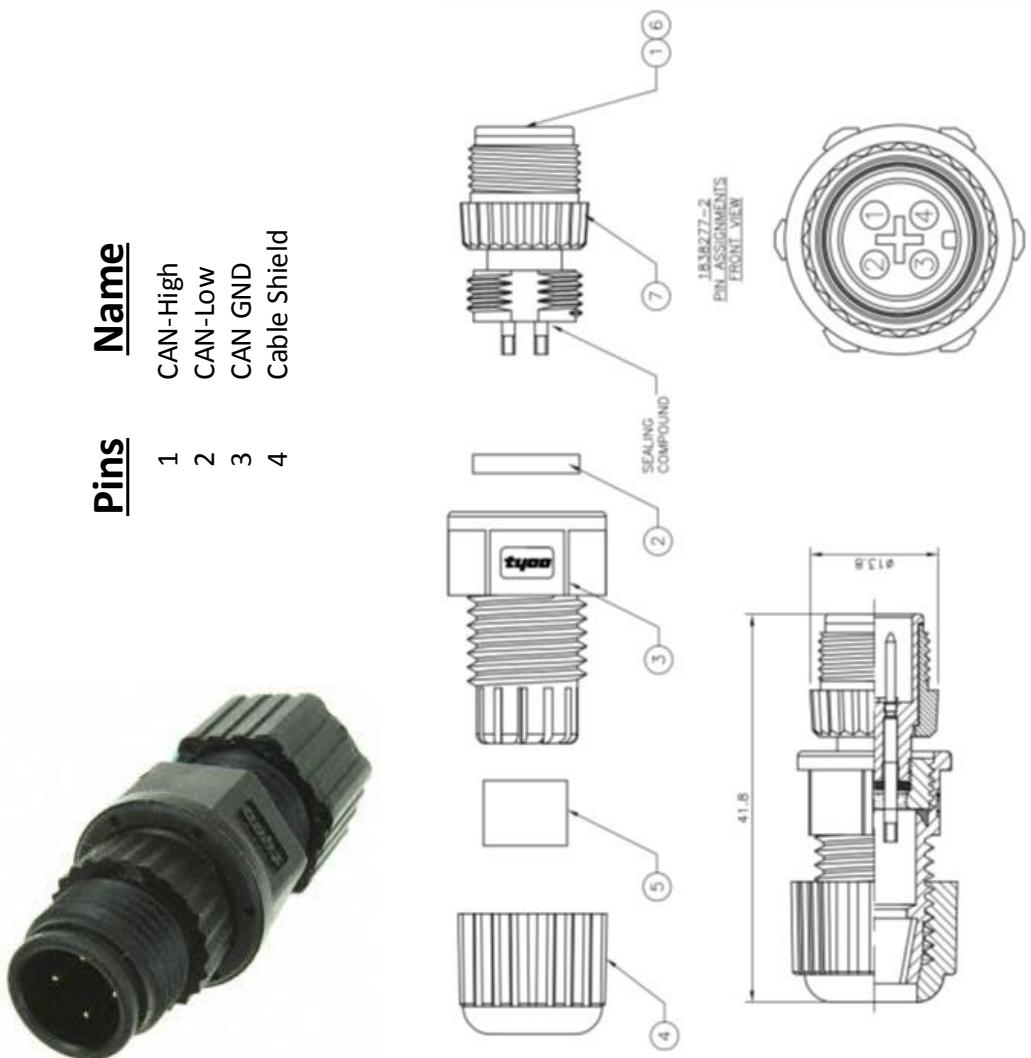

Figure 3.34: SCANM(SH): Shielded Special CAN Industrial Connector (Male)
- Picture and pinout: see figure 3.34